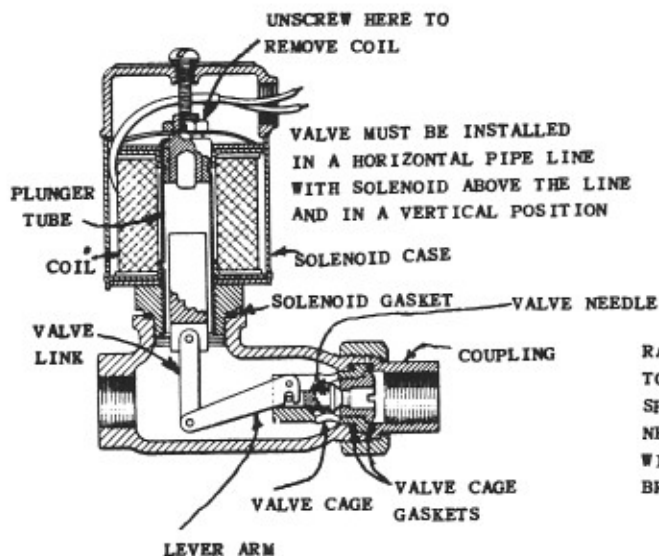

FIGURE 192
3. Coil is then removed by unscrewing nut as shown in Figure 192.